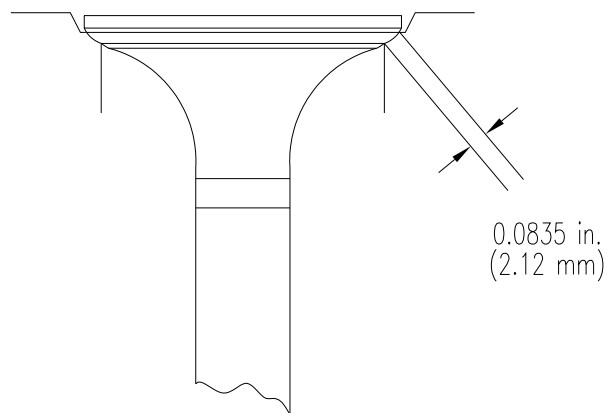

Figure 6-7. Valve Seat (Sheet 1 of 2)
- b. Refer to Figure 6-7 (Sheet 1) and measure width of contact between valve face and valve seat. Contact should be 0.0835 in. (2.12 mm).